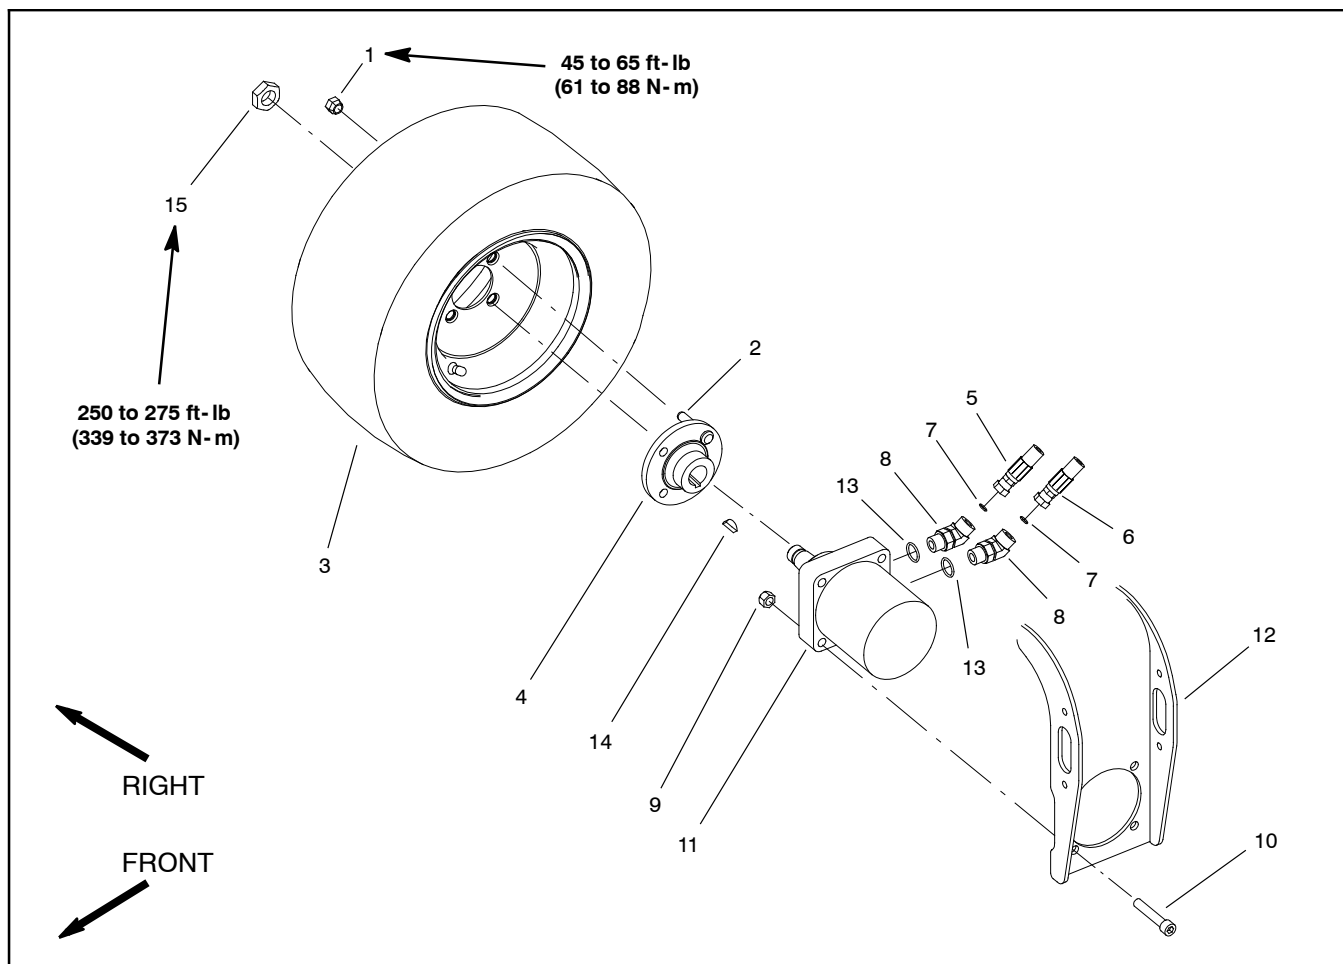

Figure 75
Removal (Fig. 75)
4. Remove rear wheel motor with wheel hub attached from the rear fork using Figure 75 as guide.
Installation (Fig. 75)
4. Install wheel motor to the rear fork using Figure 75 as guide.